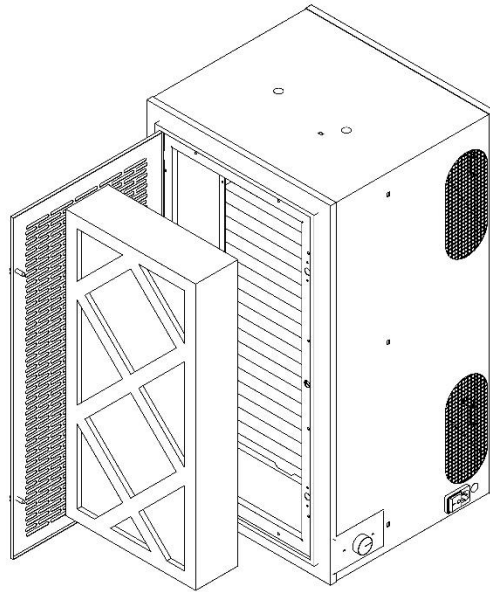

Figure 5
2.) Open filter grille by loosening (2) knobs by hand or with a coin.
3.) Remove pre-filter. See Figure 5.
7.) Reinsert pre-filter. See Figure 5.
15.) Reinsert pre-filter. Ensure that arrows on filter match the direction of air flow. See Figure 5.